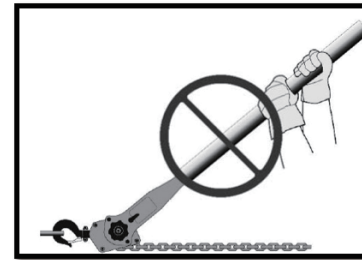

FIG 7
- Do not use an extension on the lever (FIG 7).